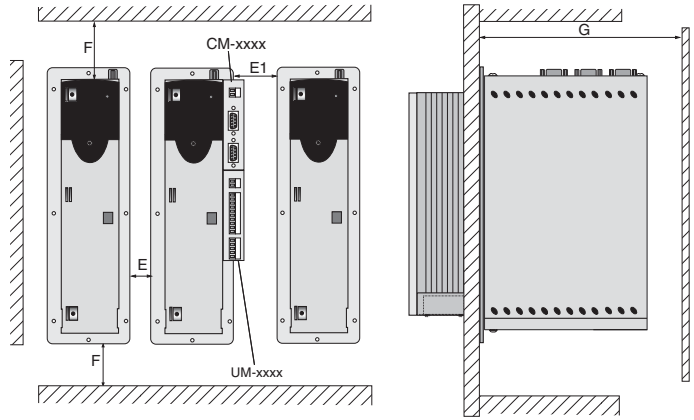

Figure 2.3 Mounting clearances (see Table 2.5)
- 1) Mounting clearances, see Figure 2.3